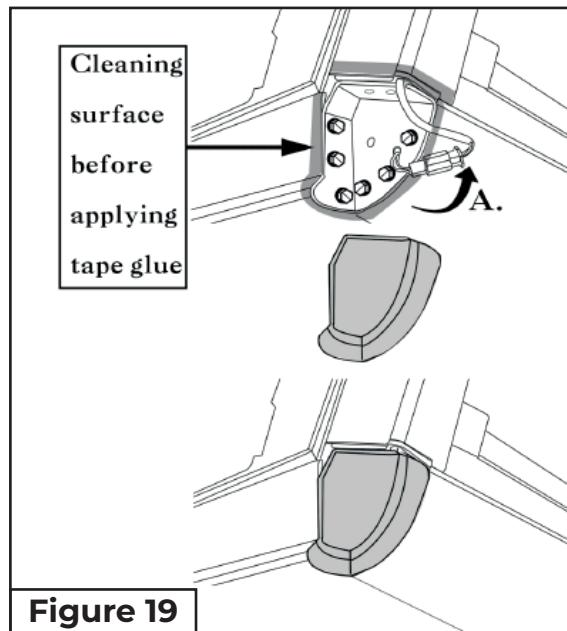
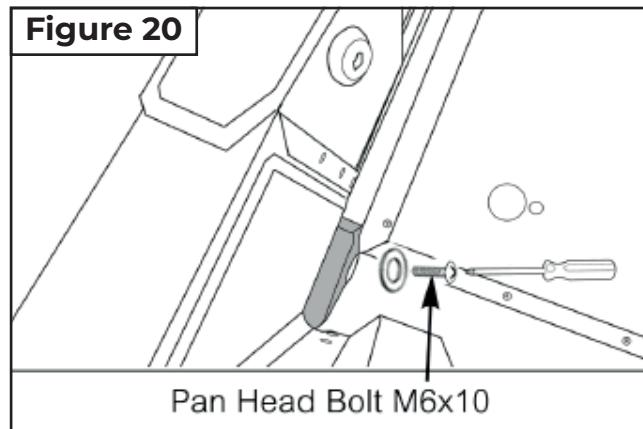

Figure 19
Figure 20
15. Next, clean the surface of the perimeter of the corner where the roof panel and left panel meet. Locate the silicone corner covers in Parts Kit #1 (Item #6) and remove the tape over the adhesive on the covers. While tucking the wires inward into the roof panel, firmly press the cover over the corner (**Fig. 19**). Fasten the corner cover to the canopy assembly using one (1) M6 x 10 pan head bolt and one (1) M6 flat washer also found in the same parts kit. The hardware fastens from the inside of the canopy assembly. Repeat this step for installing the corner cover on the other side where the right panel meets the roof panel (**Fig. 20**).